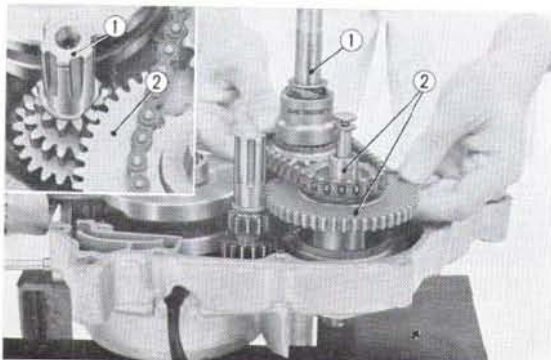

Fig. 2.39 ① Pedal shaft assembly
2. Disassemble the pedal shaft assembly and counter shaft low gear. (Fig. 2.39)